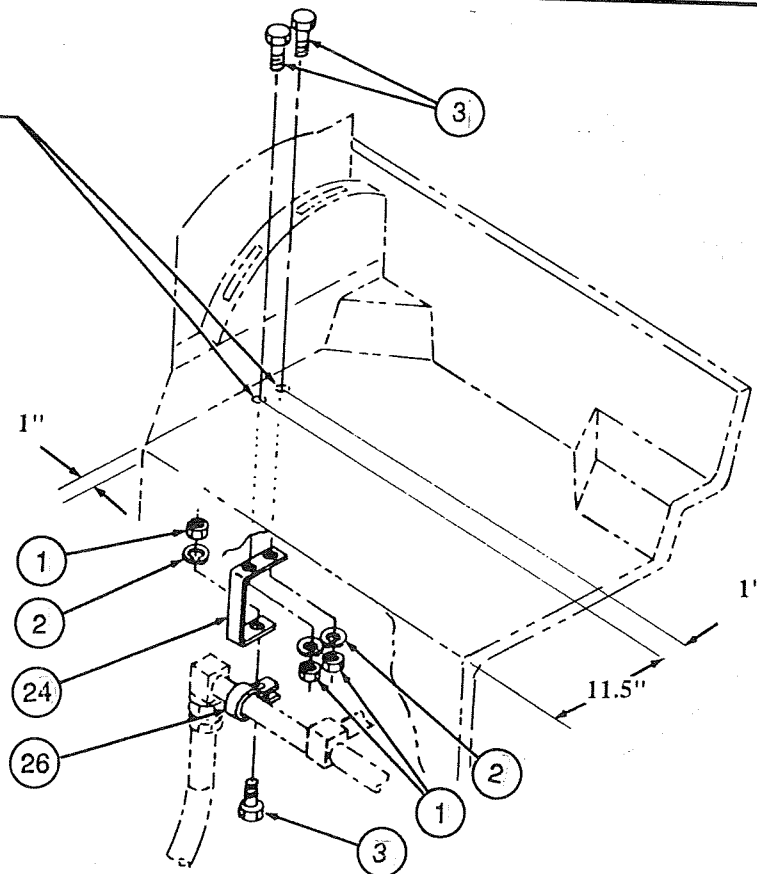

Figure 6
FLAT DECK TRACTORS - Disconnect pressure line from rear port of remote valve and rear port of priority pack under platform. Remove pressure line from tractor. Drill 3/8 holes for tube clamp bracket in platform (Figure 6).
FLAT DECK TRACTORS - Install clamp (26) onto pressure line (25)(Figure 6). Attach clamp bracket (24) to deck. Attach clamp (26) to clamp bracket (24) using 5/16 cap screw (3) 5/16 nut (1) and 5/16 washers (4 & 2) as needed.
5. Use small plastic tie straps (21)(not shown) to hold inlet, outlet and load sensing hoses from rubbing against rotating 3-point lift arms, brake levers, shift levers, etc., on tractor to avoid hose wear.